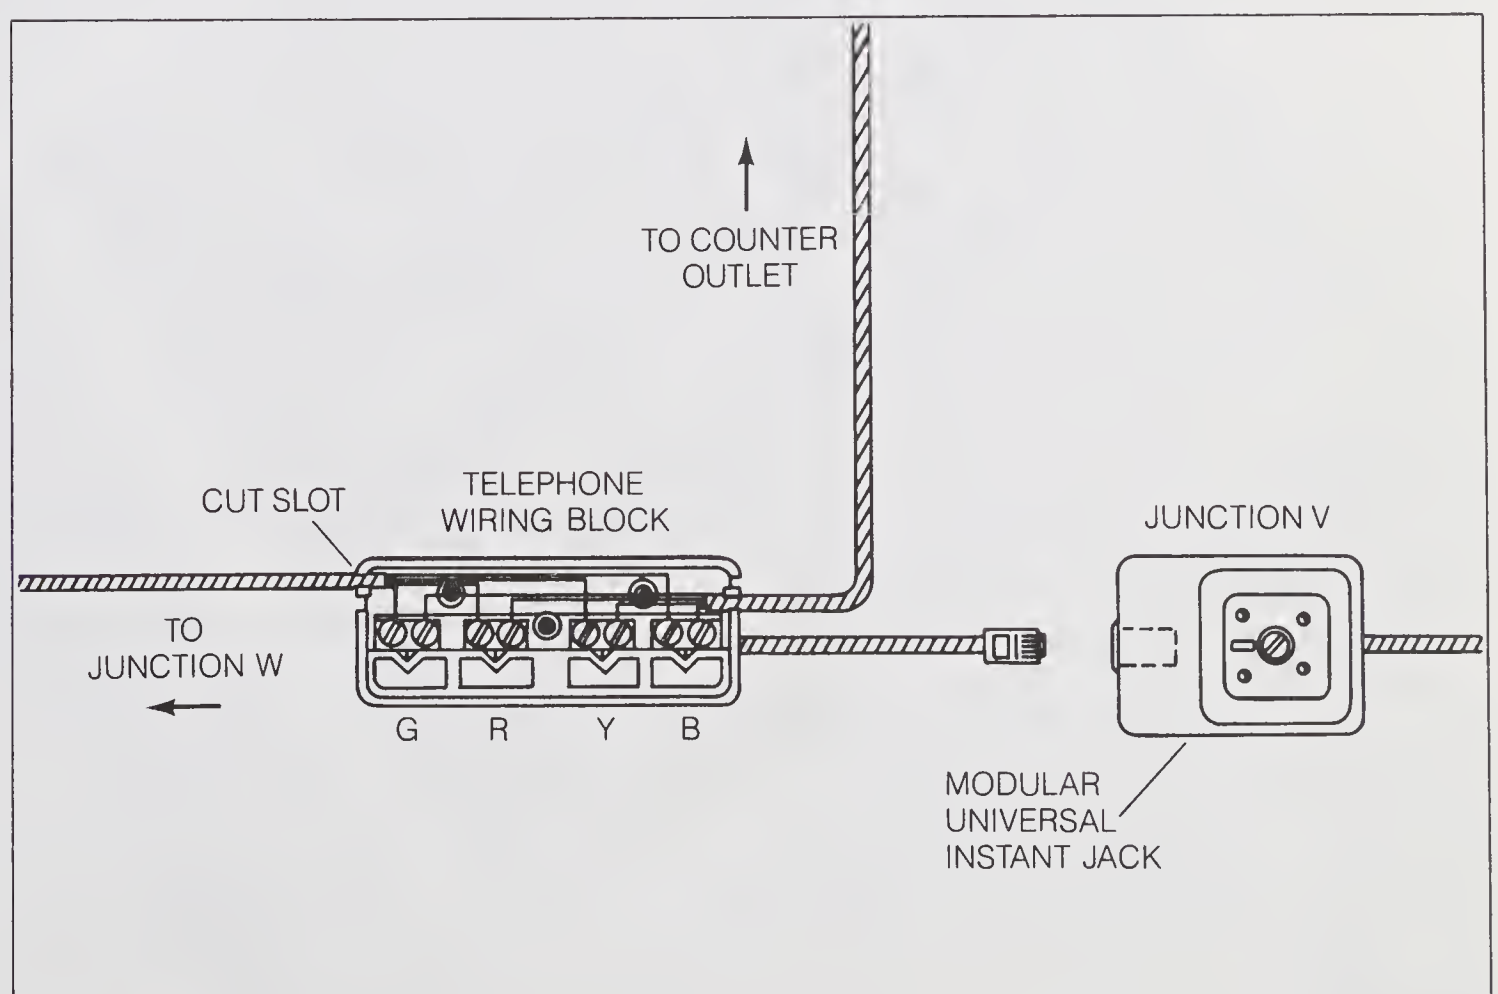

Figure 7-9.
15. Connect the cables that were disconnected from the junction V 42A block to a telephone wiring block by connecting corresponding colored conductors — red to red, green to green, yellow to yellow and black to black. The connection is shown in *Figure 7-9*. Slots in the end of the telephone wiring block need to be cut out to allow clearance for the cables.